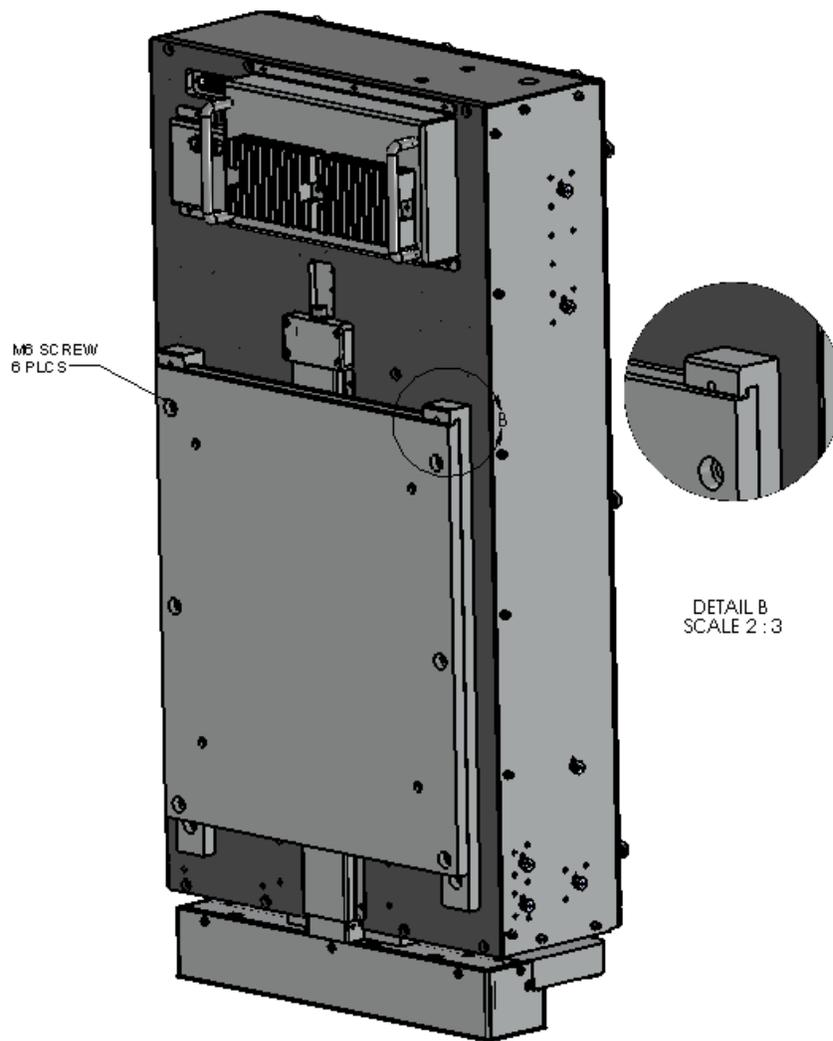

Figure 14 Payload Mounting
1. Remove payload from packaging and lift onto stage interface plate. Brackets on the back of the payload hook on a lip of the stage interface plate (see Detail B, Figure 14, - plate not included w/ payload). A dowel pin in the bracket locates the payload on the stage interface plate.